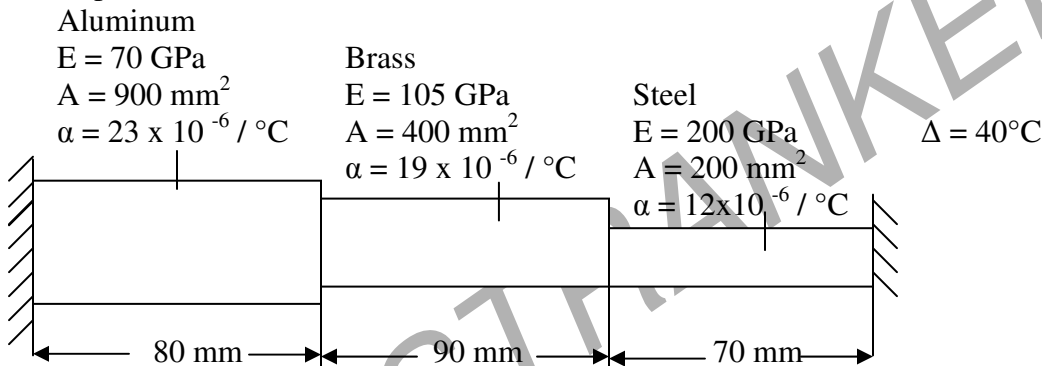

Figure: 1
2. For the three-stepped bar shown in Figure: 1 the bars fit snugly between the rigid walls at room temperature. The temperature is then raised by 40°C. Determine the displacement at 2 and 3 and stresses in the three sections. [16]